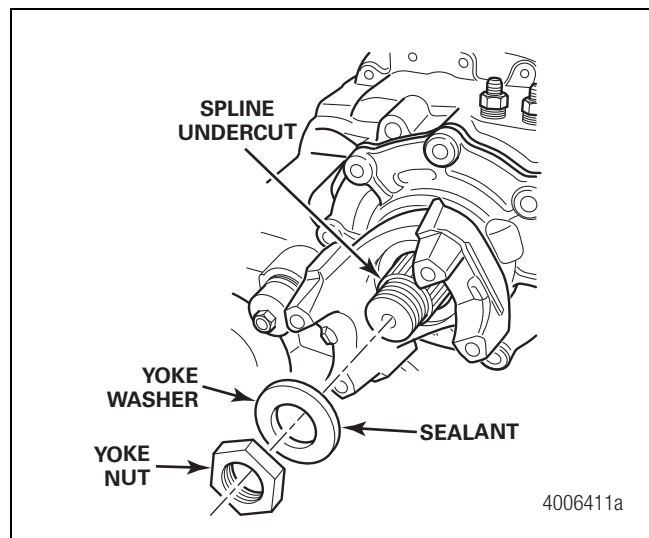

Figure 6.38
10. Apply a 1/8-inch (3.175 mm) bead of Silastic RTV 732 sealant 360 degrees around the underside of the washer. Figure 6.38.